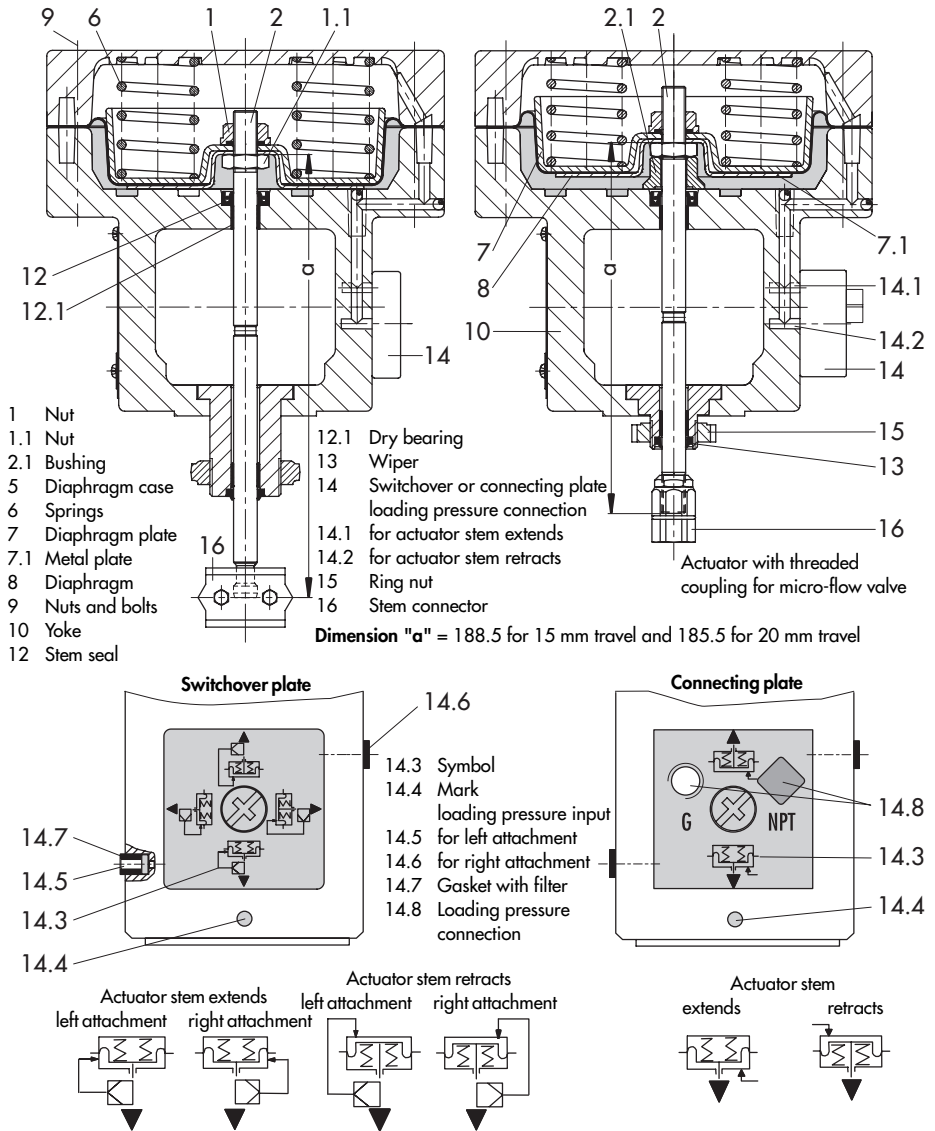

Fig. 4 · Type 3277-5 Actuator (120 cm2)
#### Type 3277-5 Actuator (Fig. 4)
- ▶ Turn the switchover plate to align the symbol (14.3) for the appropriate fail-safe action with the mark (14.4). See Fig. 4, bottom left. The operating direction (>>) or (<<) of the positioner determines whether the left or right attachment is to be used.
- ▶ Turn the connecting plate to align the symbol (14.3) for the appropriate fail-safe action "actuator stem extends" or "actuator stem retracts" with the mark (14.4). See Fig. 4, bottom right.
6. Turn the top diaphragm case (5) upside down and place in to it the actuator stem with diaphragm plate, diaphragm and metal plate (7.1 in Fig. 4), if one exists.
7. Insert the springs (6) and slide the yoke with the lower diaphragm case over the actuator stem.
8. Screw diaphragm cases back together. Remove vent plug (3) on Type 3277 Actuator.